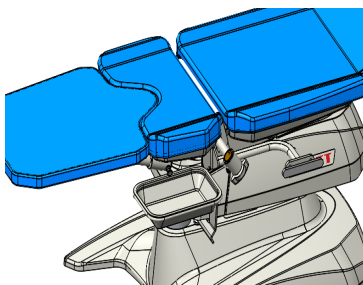
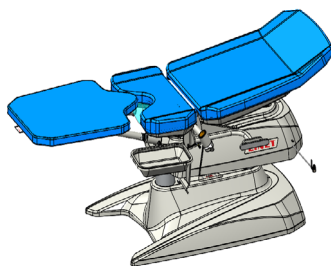

Fig. 4 Pulling out the locking pin
Fig. 5 Pulling out the patient surface
- 2) Pull the locking pin with one hand (Fig. 4) while pulling the patient surface extension away from the chair with the other hand (Fig. 5)